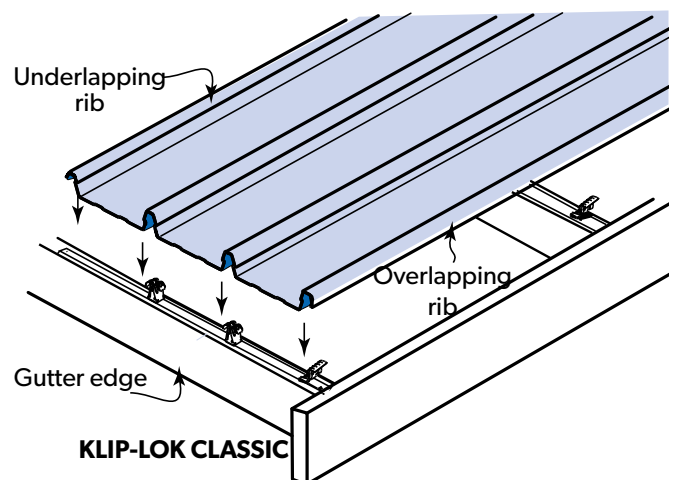

Figure 4a
- 7 Position the first sheet so that it overhangs the desired amount (minimum 50mm) to the gutter. It is important to ensure this first sheet is placed square to adjacent edges. (Figure 4a)